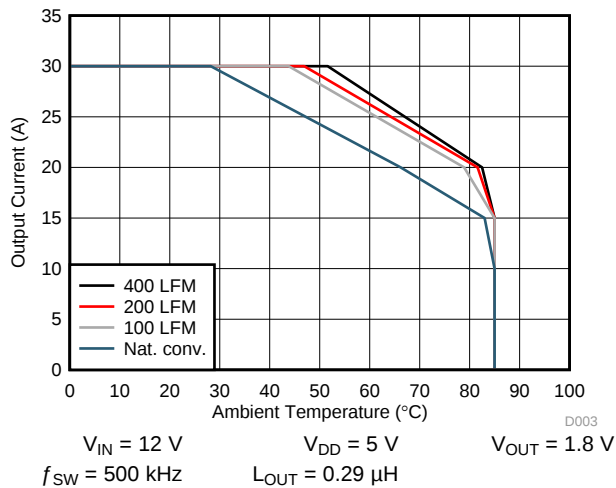
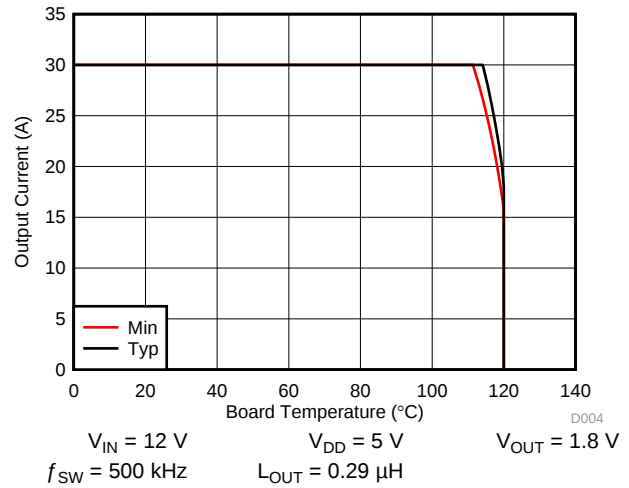

Figure 6. Safe Operating Area – PCB Horizontal Mount ⁽¹⁾
Figure 7. Typical Safe Operating Area ⁽¹⁾
The SOA curves in the CSD95377Q4M data sheet give engineers guidance on the temperature boundaries within an operating system by incorporating the thermal resistance and system power loss. Figure 6 and Figure 7 outline the temperature and airflow conditions required for a given load current. The area under the curve dictates the safe operating area. All the curves are based on measurements made on a PCB design with dimensions of 4.0 inches (W) $\times$ 3.5 inches (L) $\times$ 0.062 inch (T) and 6 copper layers of 1 oz. copper thickness.